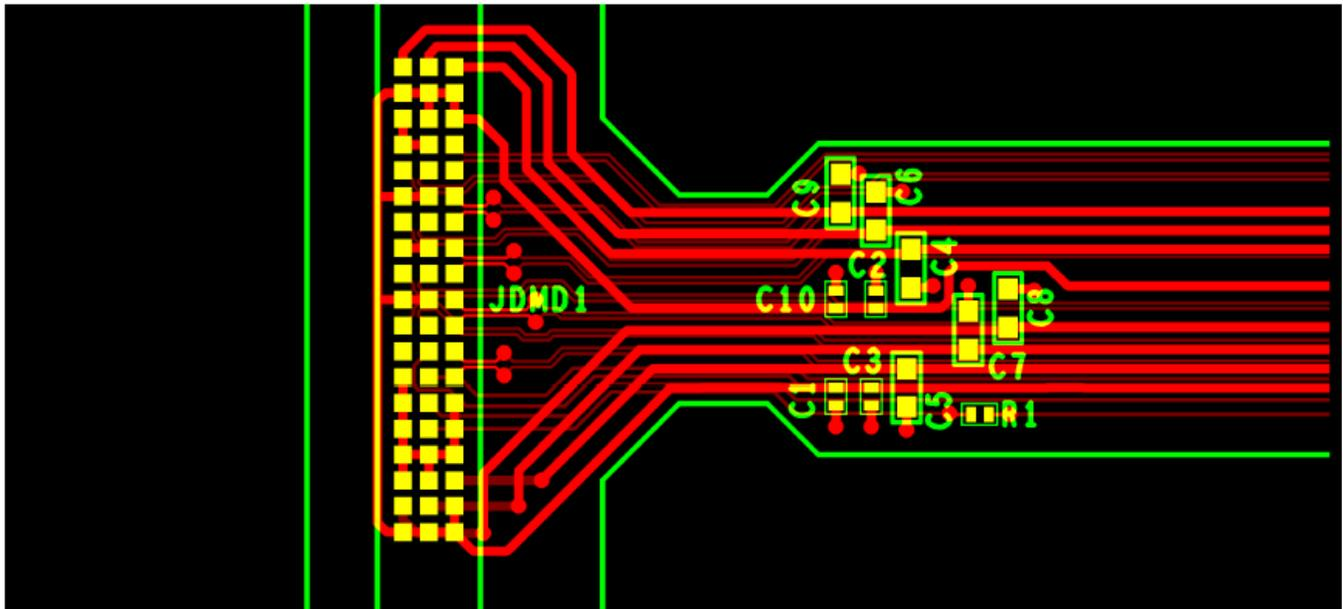

Figure 24. Power Supply Connections
- Minimize vias, layer changes, and turns for the HS bus signals. Refer Figure 24.
- Minimum of two 100-nF decoupling capacitor close to VBIAS. Capacitor C6 and C7 in Figure 24.
- Minimum of two 100-nF decoupling capacitor close to VRST. Capacitor C9 and C8 in Figure 24.
- Minimum of two 220-nF decoupling capacitor close to VOFS. Capacitor C5 and C4 in Figure 24.
- Minimum of four 100-nF decoupling capacitor close to Vcci and Vcc. Capacitor C1, C2, C3 and C10 in Figure 24.